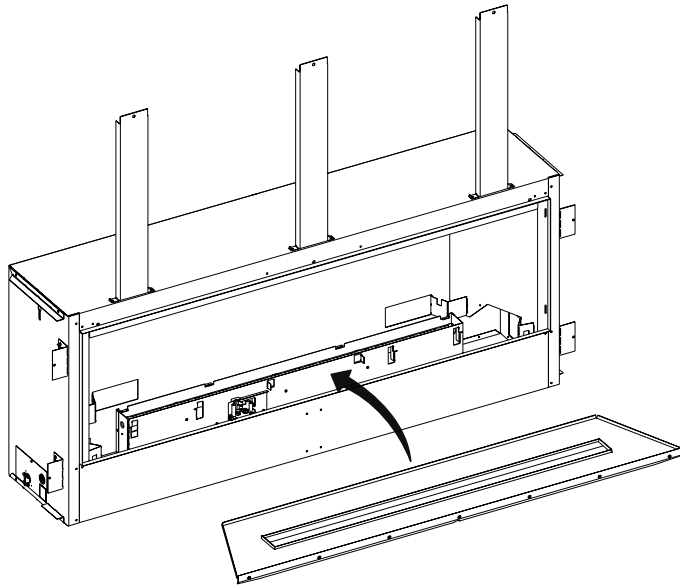

Figure 51
4. Install the burner cover assembly as shown in **Figure 51**.